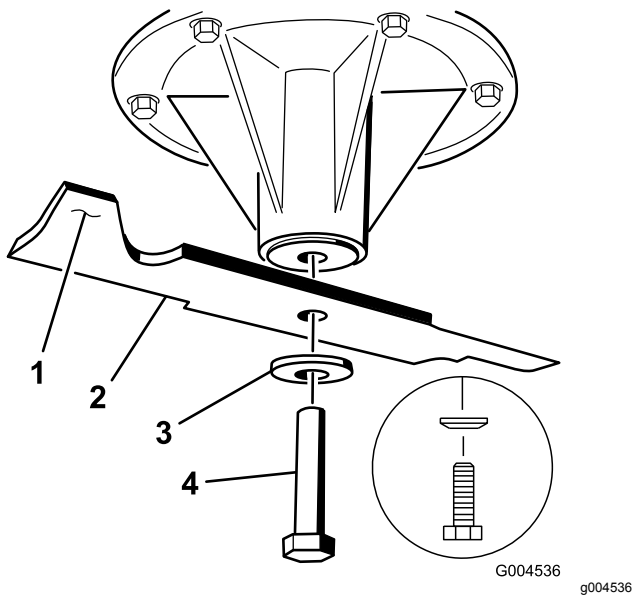

Figure 96
1. Install the blade onto the spindle shaft (Figure 96).
2. Install the spring disk and blade bolt (Figure 96).
Note: The spring-disk cone must be installed toward the bolt head (Figure 96).